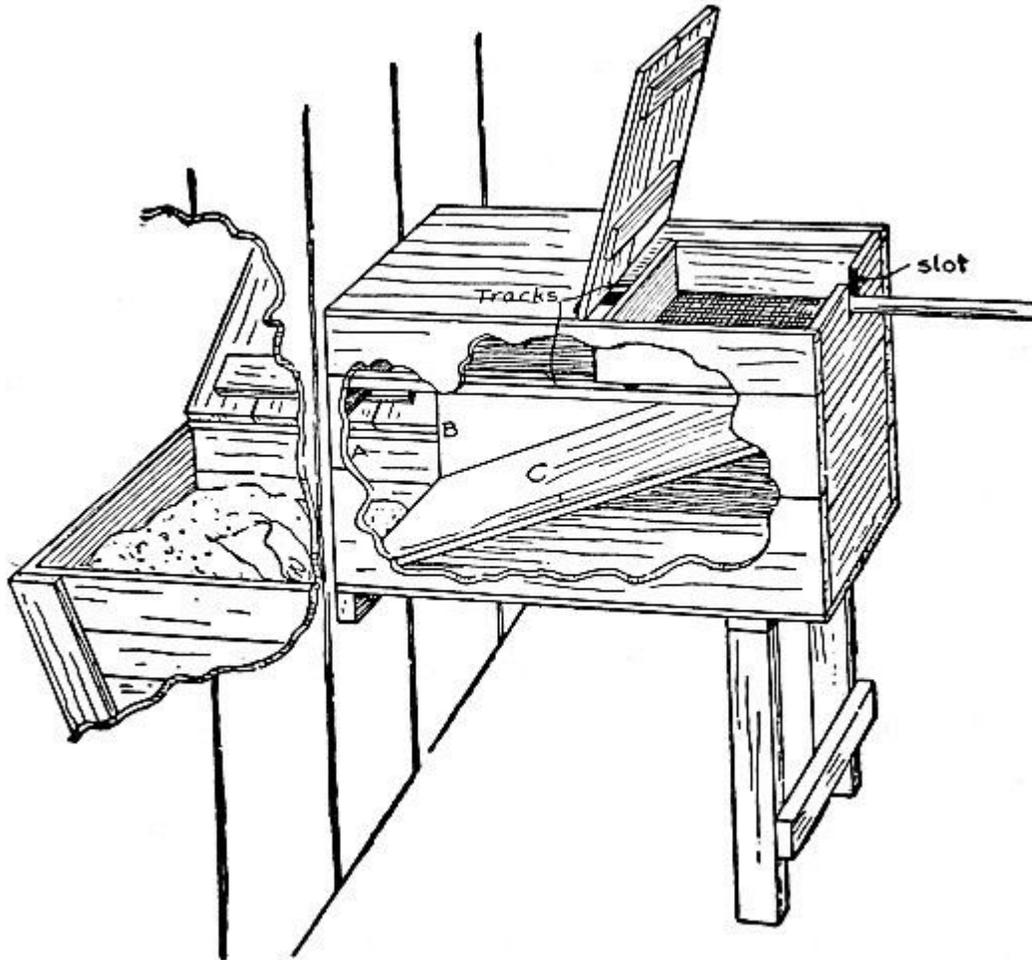

FIG. 48.—An Ash-sifter.
**An Ash-sifter** that is dust-proof and very satisfactory is shown in Fig. 48. It is made out of a packing-case about three feet long, eighteen inches wide, and twenty-four inches deep.